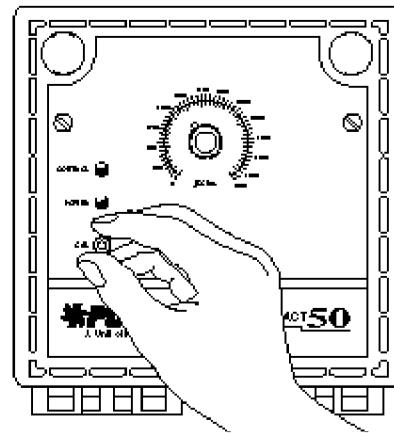

Fig. 8 Turn Cal Adjust Knob
4) Turn Cal Adjust knob (See Fig. 8) until Control light comes on. Back off Cal Adjust knob until light just goes out. Your unit is now calibrated.